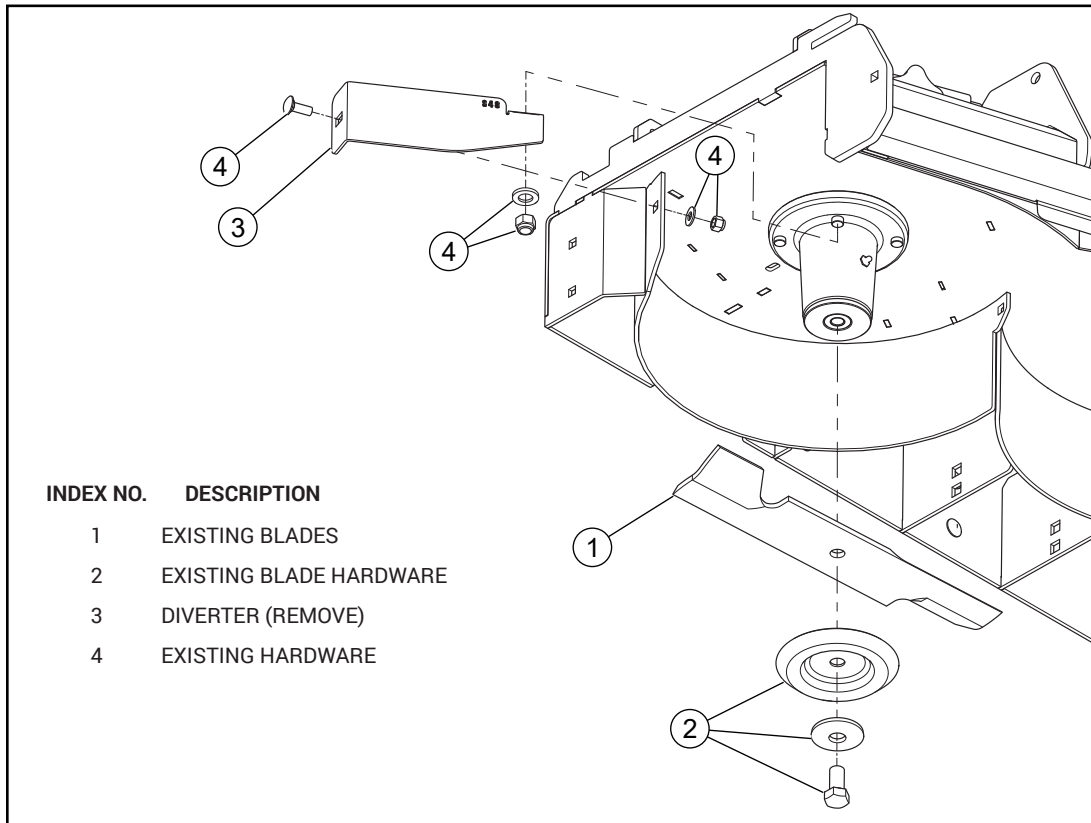

FIG. 1
4. Remove the existing blades. Keep the hardware for attaching the mulch blades. Fig. 1
5. Remove the grass diverter. Fig. 1